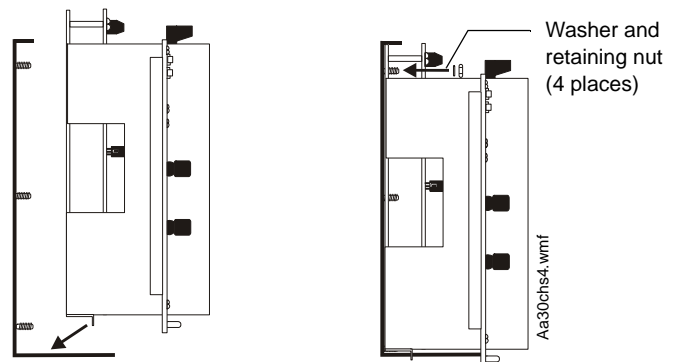

Figure 3.3 Mounting an AA-30 into the CHS-4L Chassis
1. Mount the unit(s) into the CHS-4L (see Figure 3.3):
2. Connect a primary (AC) and a secondary (24 VDC battery) power source to each unit.